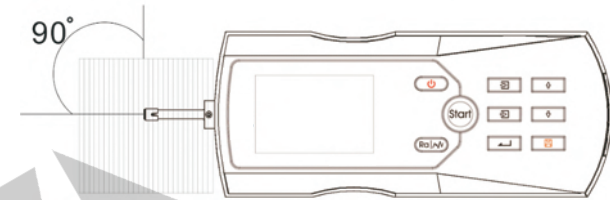

Figure 2-3 <Measuring Direction
- d. Refer to Figure 2-3, trace of the pickup must be vertical to the direction of process line of the measured surface.